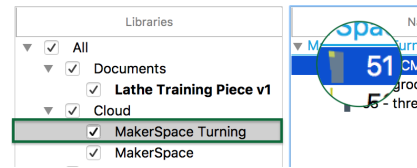

FIGURE 1.17: SELECTING A TOOL FROM THE CLOUD LIBRARY WE INSTALLED EARLIER.
- In the next popup window, you will navigate to **MakerSpace Turning** and select **Tool 51**,^{§§} our right-hand turning tool, Figure 1.17.